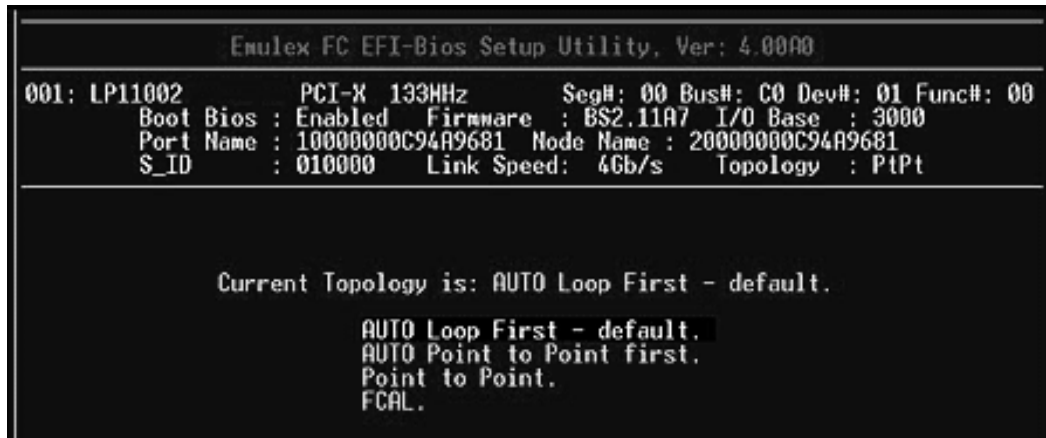

Figure 31: Topology Options screen
1. On the Adapter Configuration menu, select **2. Topology Selection** and press **<Enter>**. The screen shown in Figure 31 is displayed.